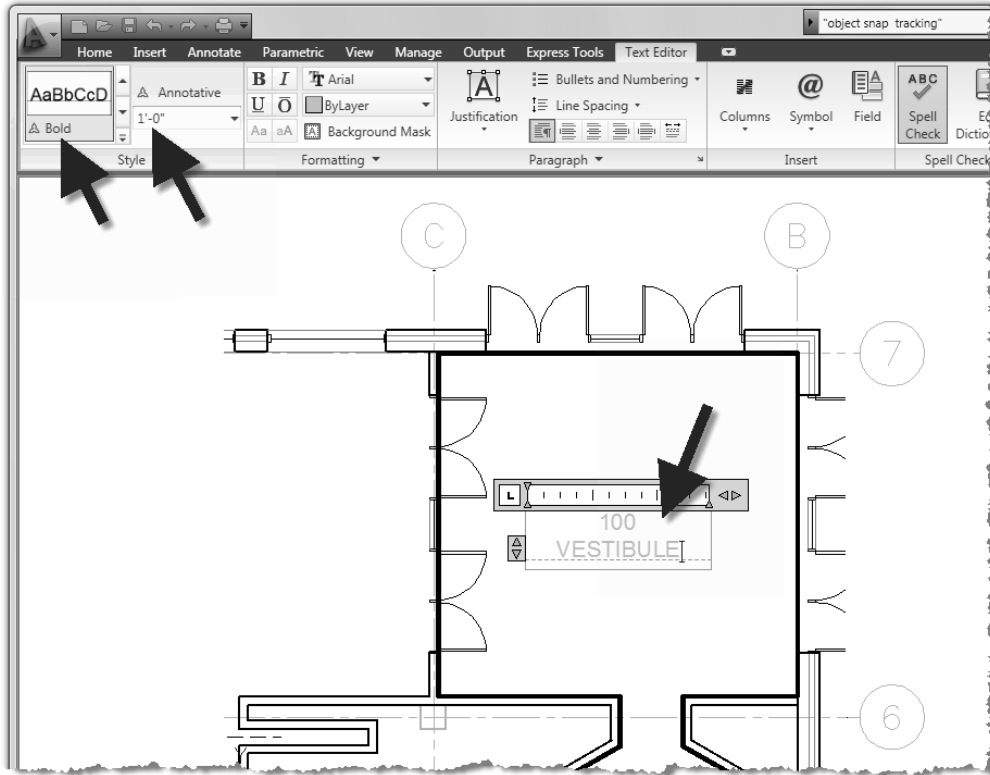

Figure 4-4.3 Adding vestibule number and name
9. Add the text to the Vestibule as shown (as Multiline Text) in Figure 4-4.3, plus: